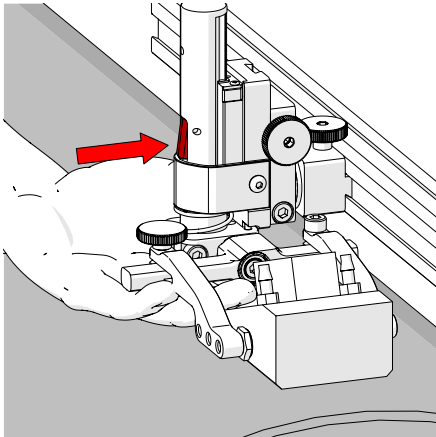
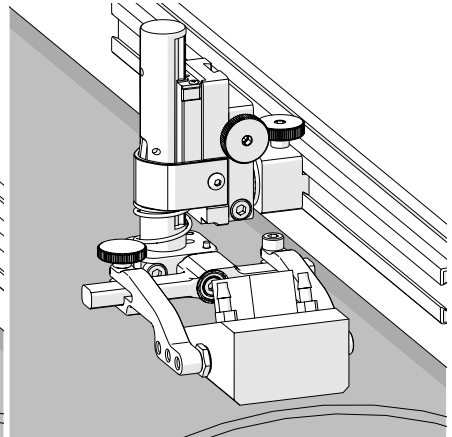

Fig. 113 - Press latch button
Fig. 114 - Lower toward scan surface
4. Lift the yoke slightly and press the latch button (Fig. 113), then slowly lower towards the scanning surface to apply spring pressure to the wedge (Fig. 114).